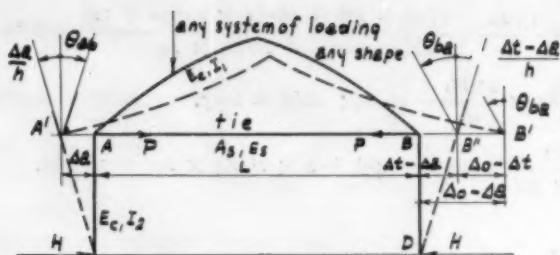

Fig. 23.
**Frames with Ties.**—Frames with curved beams and joined with ties (Fig. 23) can be analysed in a similar way to frames previously discussed except that, in addition to the equations of angular deformations, the equations of horizontal translations must be taken into account. In a statically-determinate condition, with joints A and B relaxed from the effect of continuity, the tie is assumed to be detached at B. The angular and linear gaps formed in this condition are as shown in Fig. 23. Statically-indeterminate bending moments and force  $P$  in the tie are calculated from two equations of equilibrium of angular deformations at A and B, and from one equation of linear deformation at B. These, for any shape of frame and any system of loading, are set out as follows: